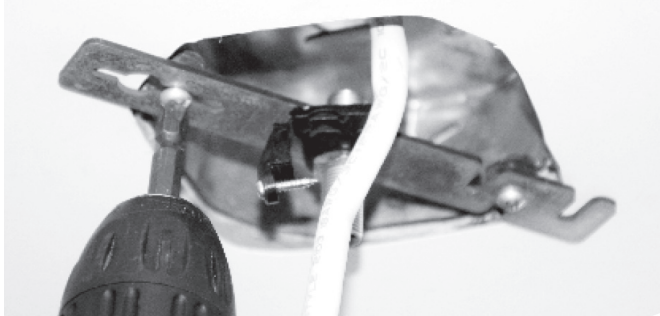

FIG.7
4. Put the wires into luminaires and lock them by the connect plate (FIG.7).